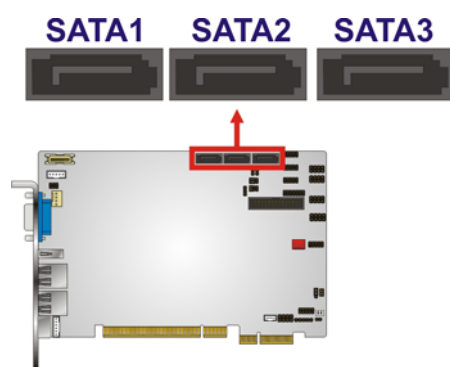

Figure 3-15: SATA Drive Connector Locations
- CN Location:** See Figure 3-15